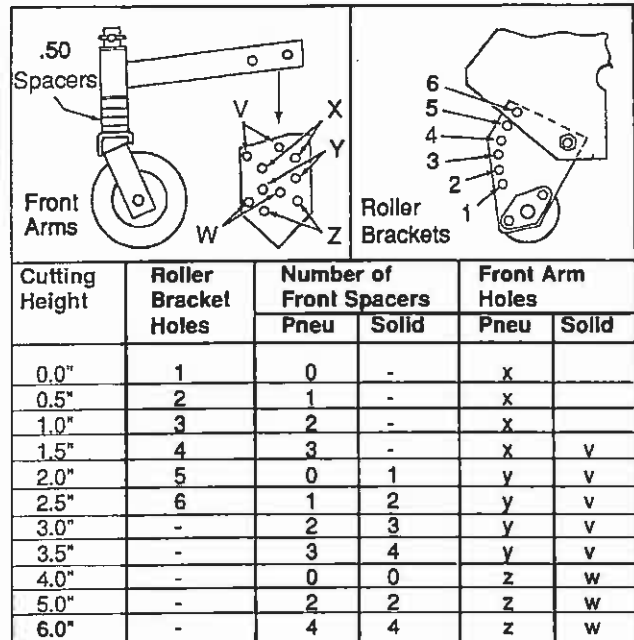

Figure 4
Before installing caster wheel arms (34) refer to adjustments section of this manual "Cutting Height Adjustment" and Figure 4.
8. Once cutting height has been determined, insert caster wheel arms (34) into mounting brackets and secure in desired position with bolt (37), lockwasher (38) and nut (39). Make certain both arms are secured at the same cutting height.
CUTTING HEIGHT ADJUSTMENTS (See Figure 4)
The cutting height is adjusted from 0" to 6" (0 to 152mm) in 1/2" increments by repositioning the caster wheel arms and the spacers under the front caster wheel support hubs (See Figure 4). The top 3 point hitch link is adjusted to obtain heights of cut between the 1/2" increments.